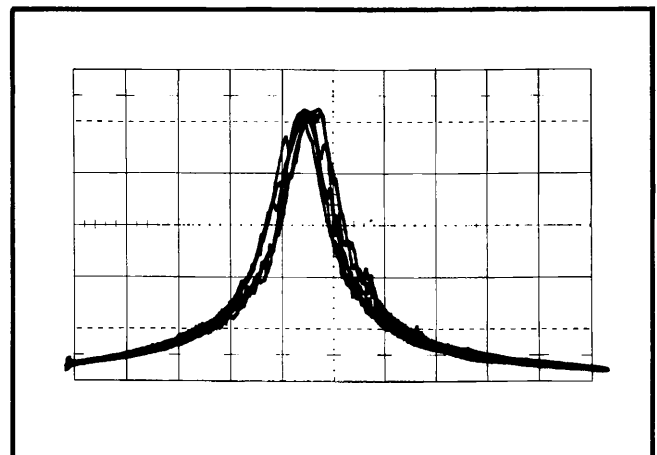

Fig. 6-27. Typical display for checking Incidental Frequency Modulation.
- a. Connect the equipment as shown in Fig. 6-27.
f. Adjust the POS control for a display similar to Fig. 6-27.
2. Connect the power to the oscillator (see Fig. 6-27). Set the varactor bias to +7.0 volts.
4. Position the dial tape to read 175.5 on Band 1. The sprocket drive will probably prevent exact positioning of the dial tape; if this is the case, loosen the set screws locking the gear to the oscillator shaft (See Fig. 6-27) and disengage the tape drive to reset the tape.
3. Connect the necessary power connections to the Band 2 (rear) Local Oscillator (see Fig. 6-27).
8. Connect the power to the Band 1 (front) Local Oscillator (see Fig. 6-27).
3. Connect the necessary power connections to the Band 1 (front) Local Oscillator (see Fig. 6-27).
8. Connect the power to the Bands 2-5 (rear) oscillator (see Fig. 6-27).